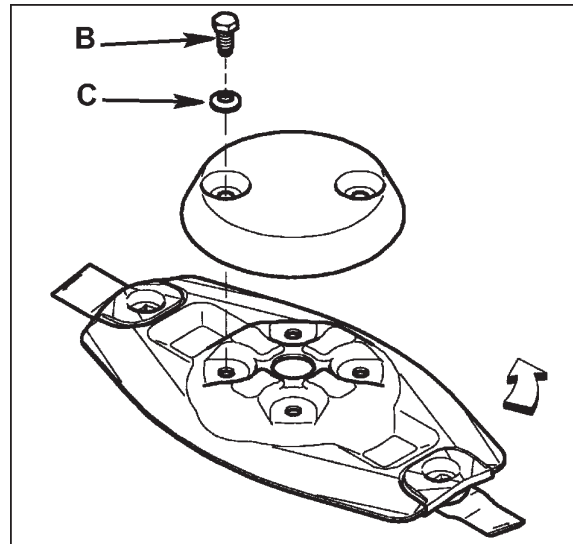

Fig. 10
Discs are secured by 4 nipple screws (B) and 4 conical spring washers (C) on a hub (fig. 10).
Two of these diametrically opposite bolts are also used to secure the conical covers on top of the discs. Tighten all 4 bolts to a torque of **12 daNm (90 ft.lbs)**. The discs must have their largest diameters positioned at right angles to each other (see photo 31). This positioning must be scrupulously respected so as to avoid interference between the knives. Take extra care when fitting the conical spring washers (C) (fig. 10), which must be positioned with the conical centre at the top.